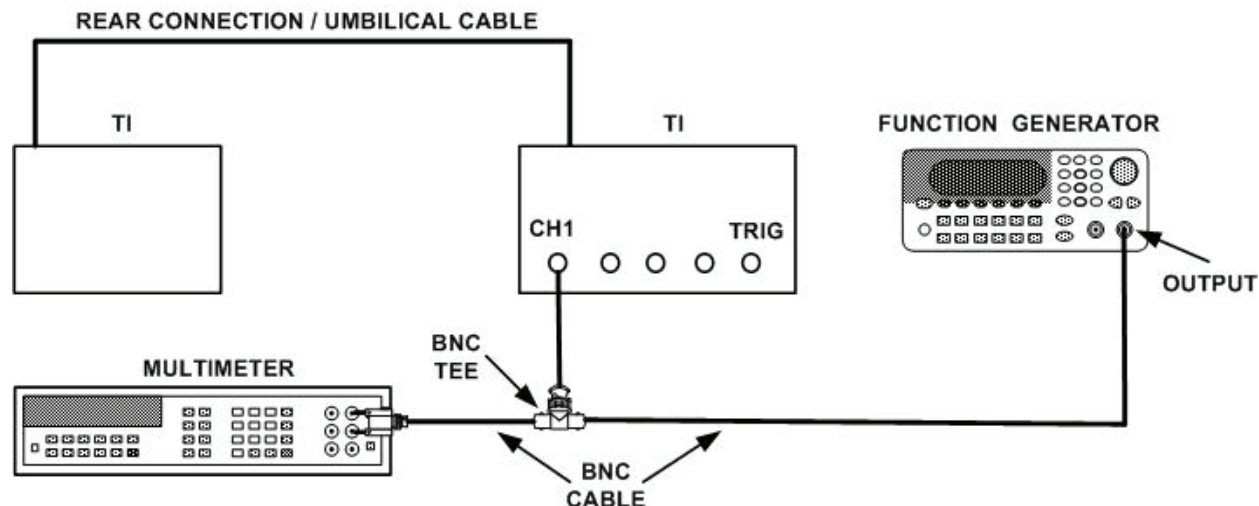

Figure 3. Dc voltage measurement - equipment setup.
(2) Press **SYSTEM CONTROL SAVE SETUP** and **ENTRY 1** pushbuttons.
(3) Press **More** and **Channels** keys and set **VOLTS/DIV** to **Sensitivity = 80 mV/div** for **Channel 1** through **4**.
(4) Press **Display** key. Set **Display Mode** to **Persist** and **Persistence = 300 ms** is highlighted.
(5) Press **SYSTEM CONTROL SAVE SETUP** and **ENTRY 2** pushbuttons.
(6) Press **SYSTEM CONTROL RECALL SETUP** and **ENTRY 1** pushbuttons. Press **Channels** key and set **Channel 1** to display **On** is highlighted.
(7) Press **Delta V** key. Set **V Markers On** and overlay both **MARKERS** on **Channel 1**. Press **Preset Levels** key until **50%-50%** is highlighted.
(8) Press **SYSTEM CONTROL CLEAR DISPLAY** pushbutton and wait for 16 averages to accumulate (**#Aves = 16** top left of display).
(9) Press **Auto Level Set** key. Display **V(1)** value will indicate 0 V (± 2.16 mV).
(10) Press **Display** key and change **Bandwidth** to **20 GHz** is highlighted.
(11) Press **SYSTEM CONTROL CLEAR DISPLAY** pushbutton and wait for 16 averages to accumulate. Press the **Delta V** and **Auto Level Set** keys. Display **V(1)** value will indicate 0 V (± 2.16 mV).
(12) Connect equipment as shown in figure 3.
- (13) Set function generator for 500 mV dc offset as indicated on multimeter.
- (14) Press **Channels** key and set **OFFSET to Offset = 500 mV**.
- (15) Press **Display** key and set **Bandwidth to 12.4 GHz** is highlighted.
- (16) Press **CLEAR DISPLAY** pushbutton and wait for 16 averages to accumulate.